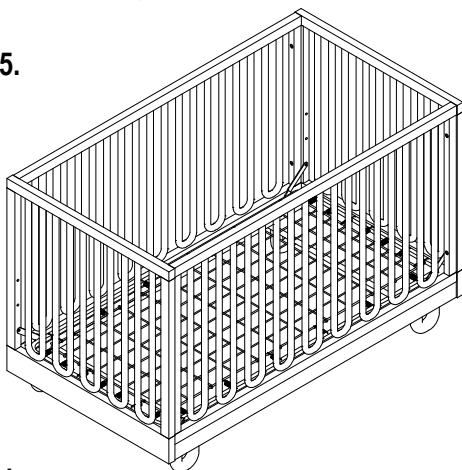

FIG.3.
- Attach Mattress Spring (5) to End frame shown in FIG.3.
- Secure with Allen key (H).